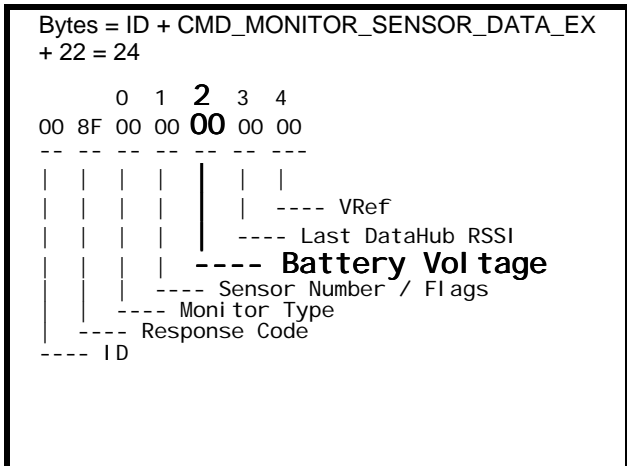

FIG. 12.1: Example Monitor Data Packet
12.2.2 Click on **Poll > Poll Monitor.** Fig. 12.1